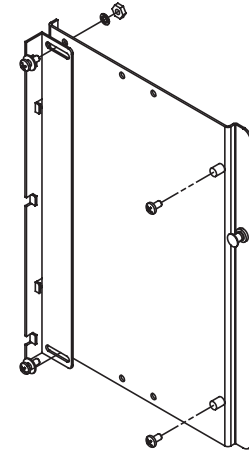

Figure 3
- 2) Assemble mounting plate as shown using the appropriate hole pattern for the controller panel you are installing. Refer to **Figure 3**.